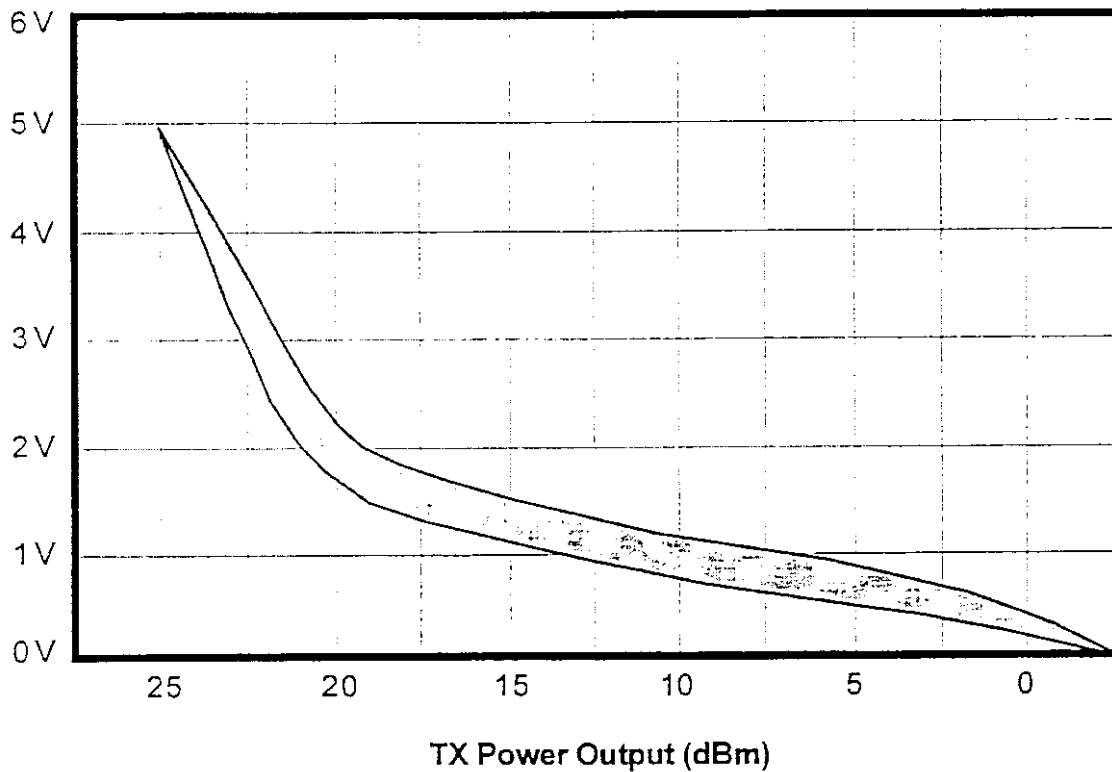

Figure 3-12: Typical RF Output Power versus PWR Voltage
8. Place a voltmeter across the GND and PWR front panel test points. See Figure 3-12 for voltage setting information and Table 3-G for typical output power levels for given cable lengths where EIRP limits apply. Consult the LYNX mini2 Product Guide for Path Planning to establish proper level for this setting. If necessary, use a small screwdriver at the front panel receptacle to adjust the output power of the local transmitter in accordance with the path analysis calculations. The recessed potentiometer is rotated clockwise to increase transmit output power and counter clockwise to decrease transmit output power. After verifying correct setting of the transmit, output power disconnect the voltmeter. Place the cover cap found in the installation accessory kit over the front panel receptacle.